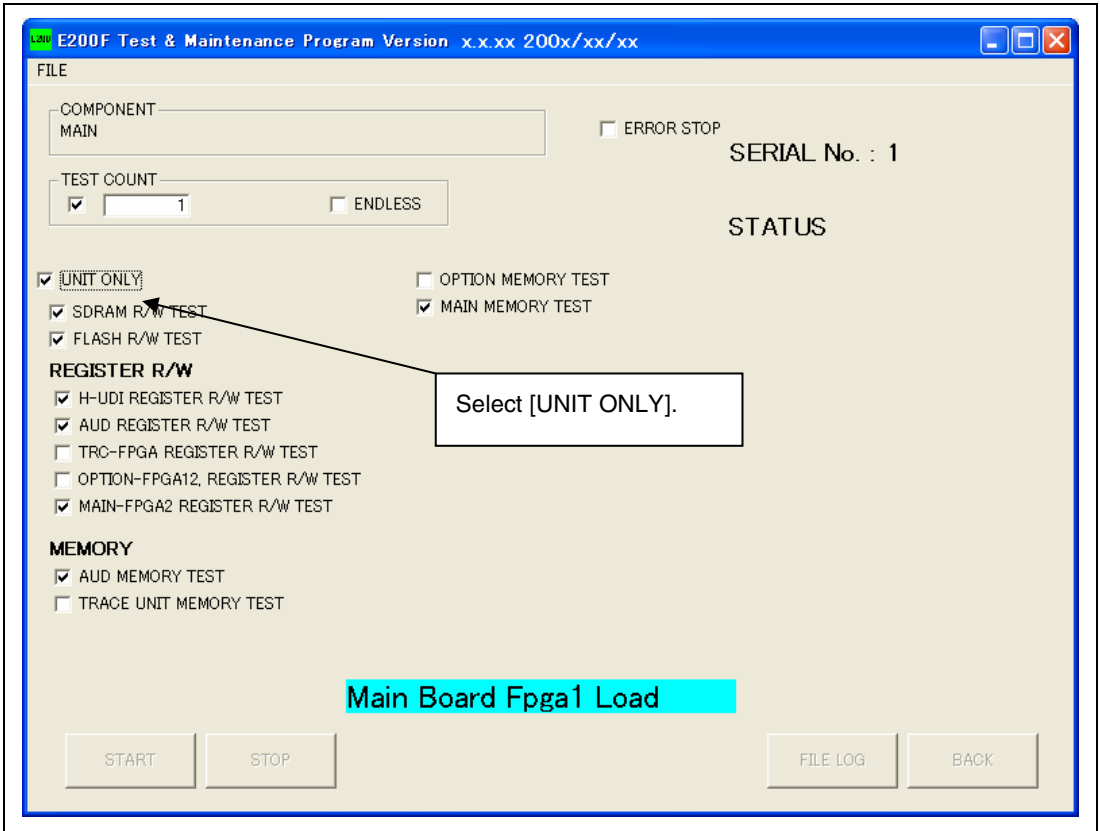

Figure 3.7 Screen for Selecting Test
7. When the emulator enters USER TEST MODE, the screen shown in figure 3.7 is displayed.